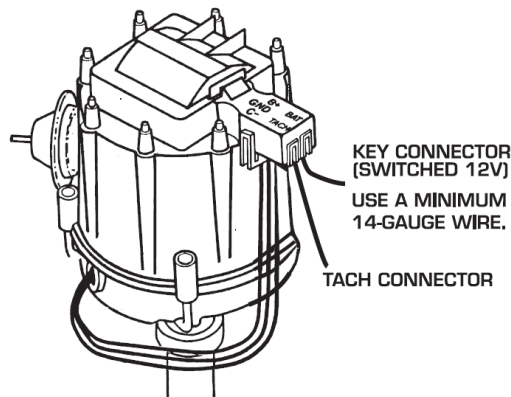

Figure 2 – General Wire Installation
11. Connect a switched 14-gauge wire from a 12 volt source to the B+ terminal of the Distributor Cap (**Figure 2**). (Be sure the 3-pin connector from the module is connected to the cap).
1. Mark the spark plug wires and their location then remove the cap. Note that the Vortech Distributor routes the wires to each side and from front to back (**Figure 2**).
- Position the Stop Plate with the desired stop amount against the canister rod (Figure 2). Position the plate as shown.